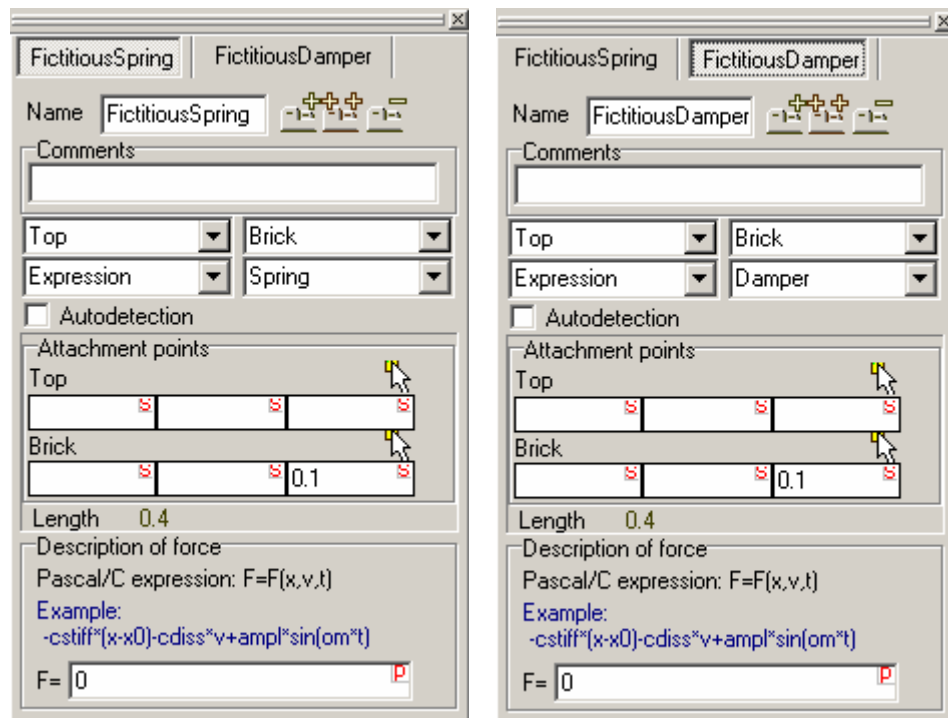

Figure 2.6. Fictitious bipolar forces
2. Add two bipolar force elements. Set their parameters as it is shown in the Fig. 2.6.